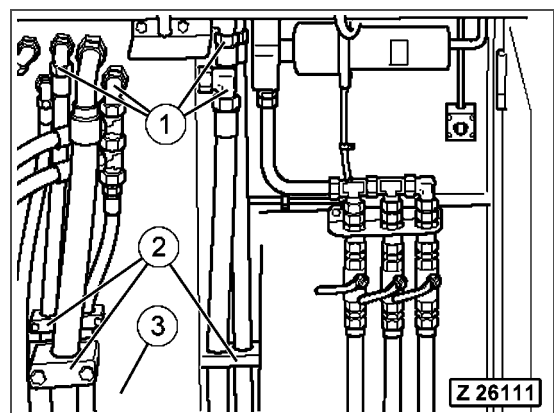

Fig. 3-80
6. Loosen all clamps (Fig. 3-80, Pos. 2) mounted at the hydraulic oil reservoir to clear all hydraulic lines from the hydraulic oil reservoir (Fig. 3-80, Pos. 3).
7. Mark and disconnect all hydraulic lines (Fig. 3-80, Pos. 1) from the hydraulic oil reservoir.